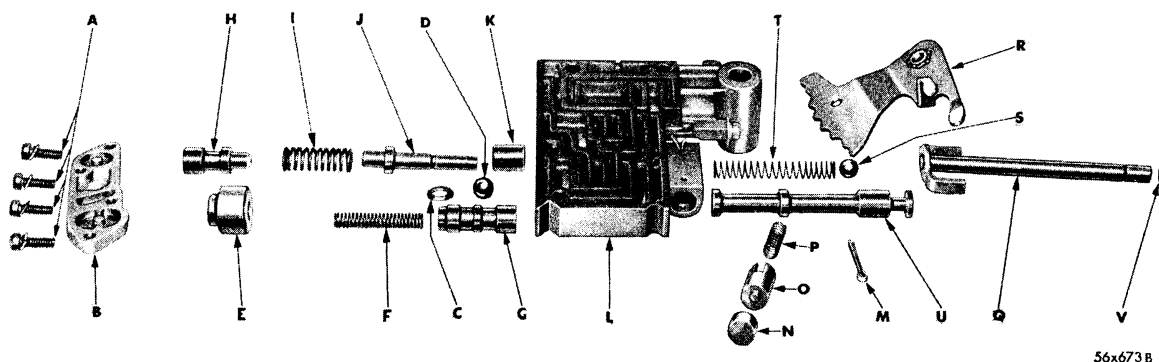

Fig. 110—Front Valve Body (Disassembled View)
All letters referred to in disassembly of front valve body pertain to Figure 110.
Remove the throttle valve lever shaft snap ring (V) (Fig. 110). Remove any burrs from throttle valve and manual valve lever shafts and slide them from valve body. Slide throttle valve lever shaft (Q) out of manual lever assembly (R). Using caution to prevent loss of detent ball (S) and spring (T), remove manual valve lever assembly (R) from valve body. Using a twisting motion, remove manual valve (U).